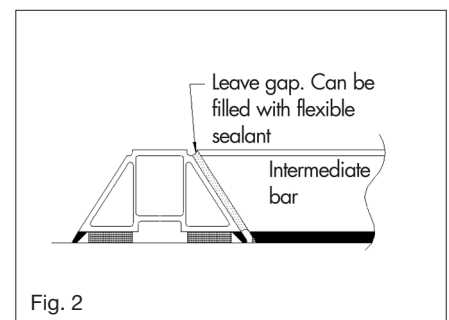

Fig. 2
- Allowance should be made for expansion, avoiding tight joints between glazing bars and beads (which may prevent compression of the tape Fig. 2).